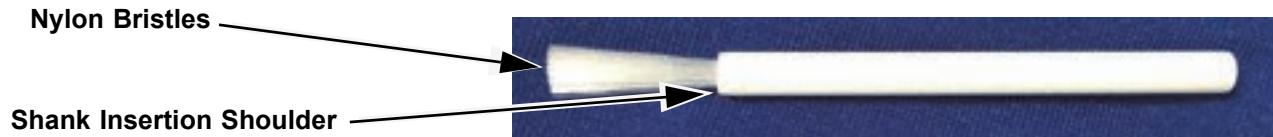

Figure 9-6. Lens Cleaning Brush (300-8330)
3. Locate the brush provided in the GX Cleaning kit (see Figure 9-6).